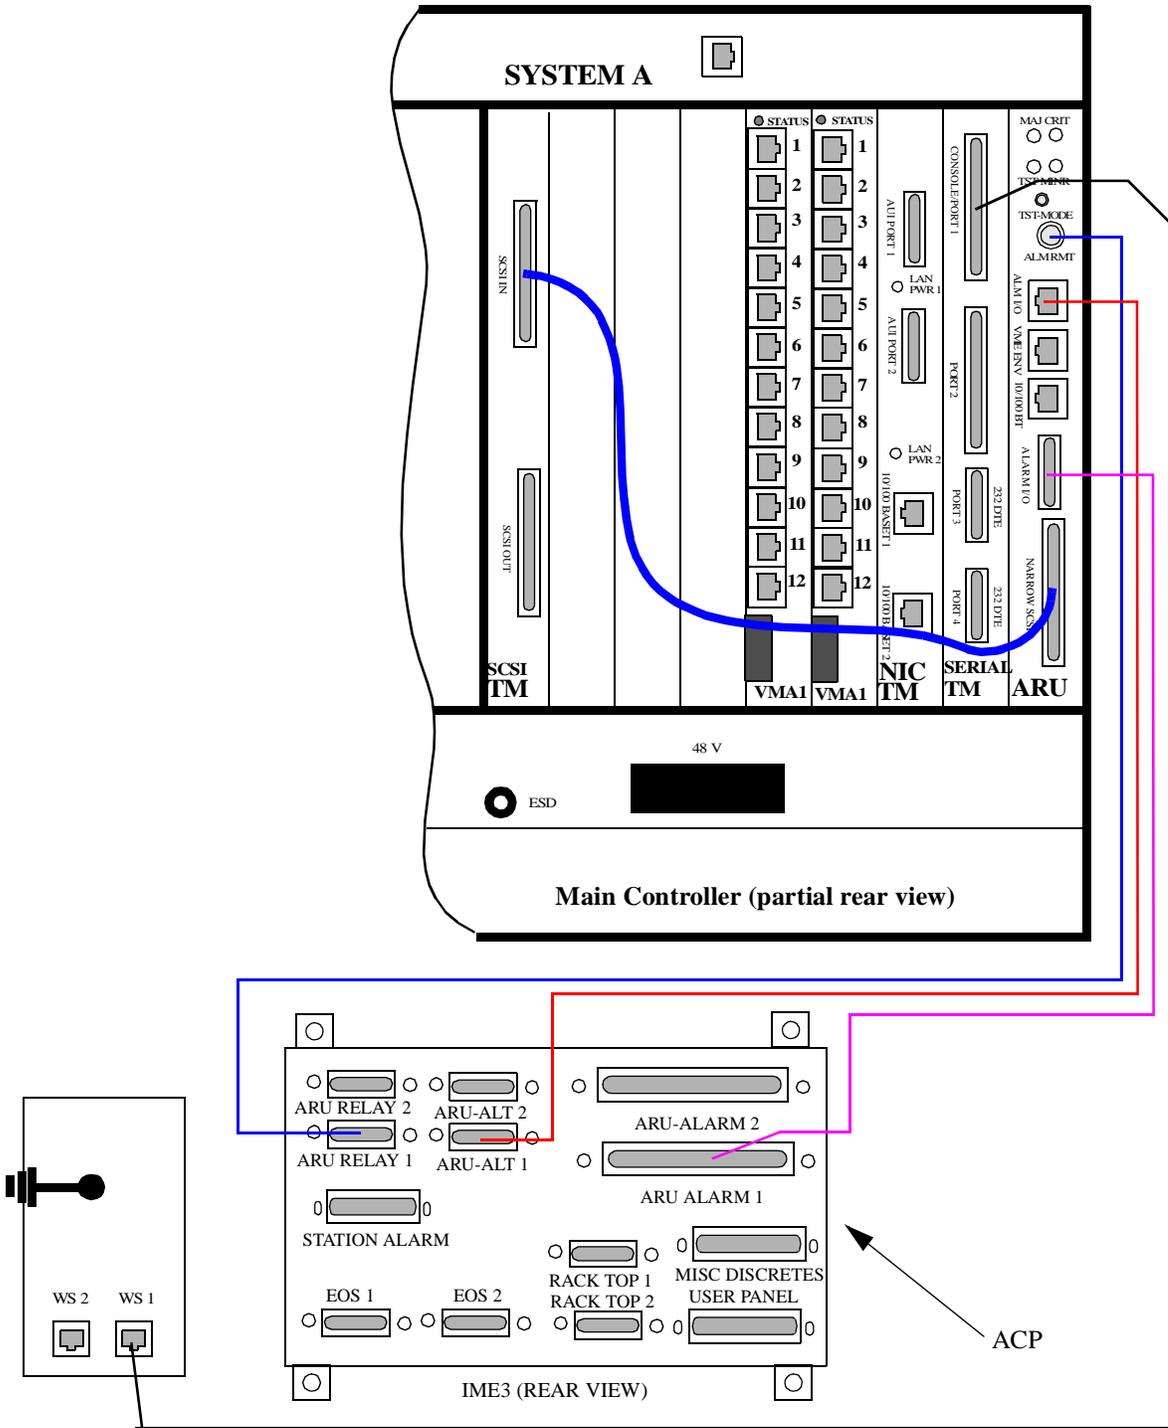

Figure 5-4. Main Controller Connector Location Diagram
*Step 3:* Using Table 5-3. (page 9) and Figure 5-4. (page 10) to make the connections to/from the Motorola MC.